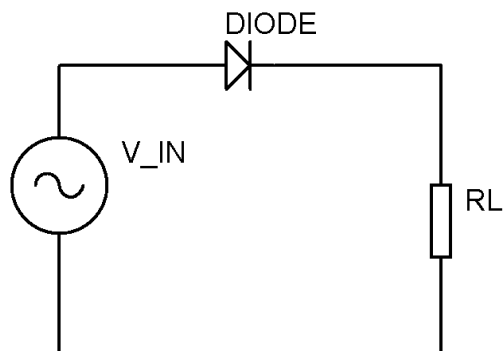

Figure 1. Half bridge rectifier
1. Arrange the circuit as shown in Figure 1.